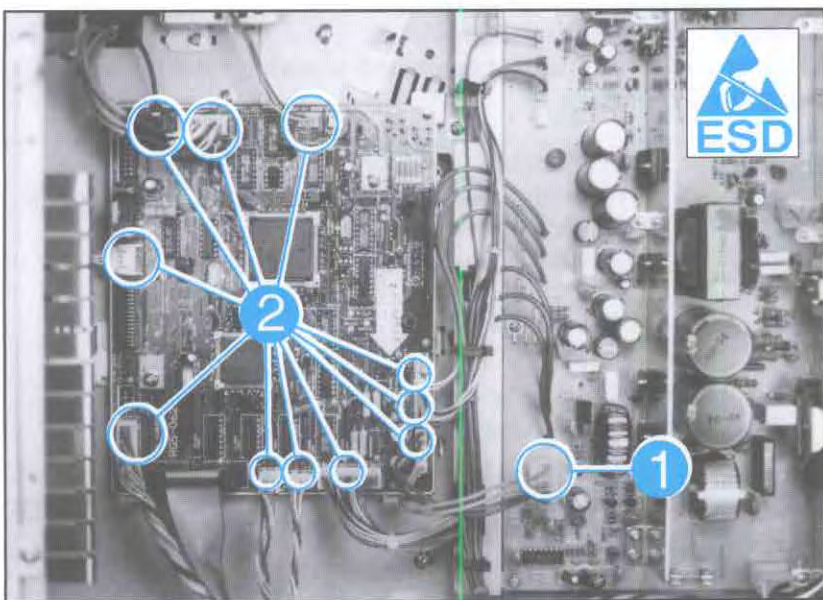

Figure 6-23. DC Controller
5. Unplug the (1) connector (J5) from the DC Power Supply (see Figure 6-23, callout 1).
6. Unplug the (11) connectors from the DC Controller PCA (see Figure 6-23, callout 2). These connectors are: J1, J2, J4, J7, J8, J10, J11, J12, J13, J15, and J18 (or J1001, J1002, etc.).